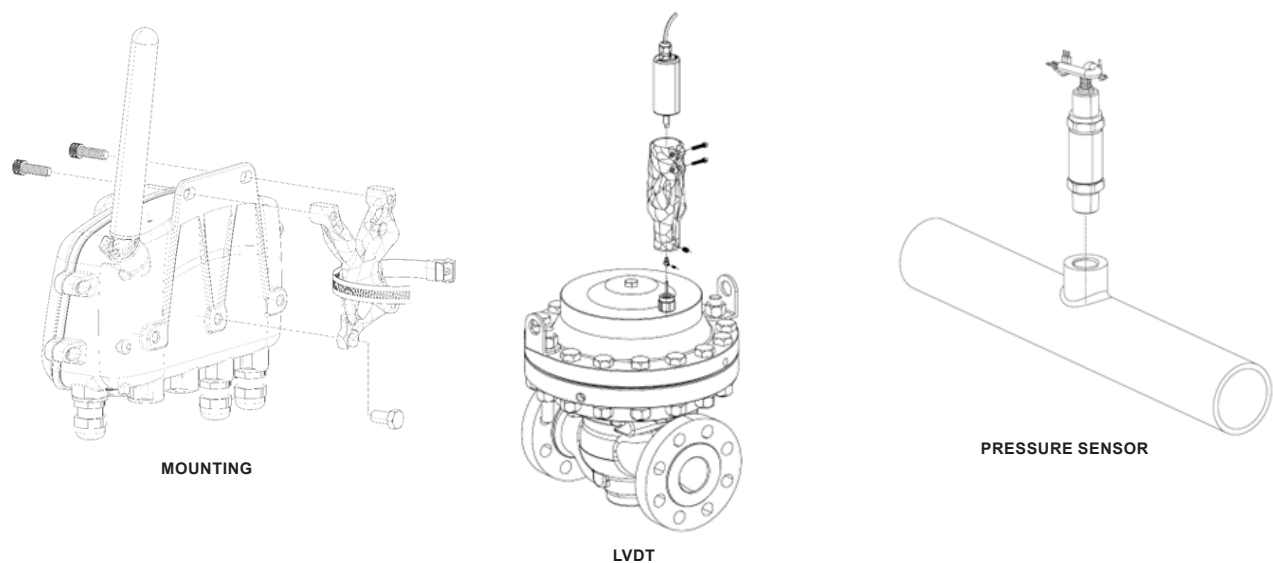

Figure 3. Installation Procedures
- 1. Tighten all three mounting screws by hand with the bracket oriented as shown in Figure 3.
- 3. Install the pipe clamp as shown in Figure 3.
Linear Variable Differential Transducer (LVDT) Bracket and Installation (Figure 3)
Pressure Sensor Installation (Figure 3)